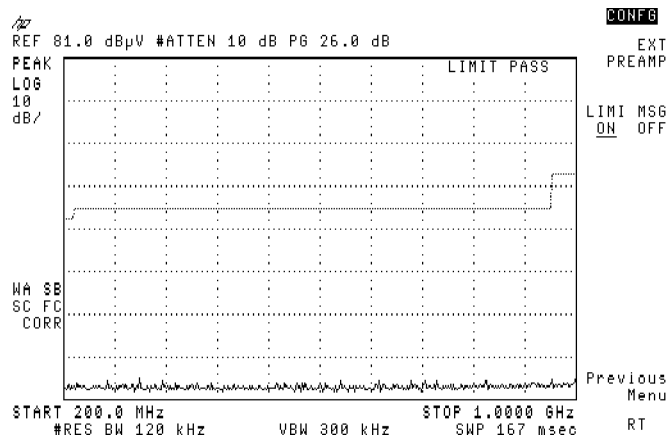

Figure 3-83. Displaying LIMIT PASS
20. Disconnect CAL OUT from the analyzer input. **LIMIT PASS** is displayed since the signal does not exceeds the limit line. See Figure 3-83.